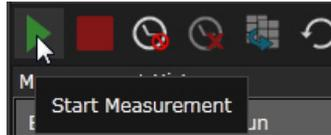

Figure 49 Start measurement
- 18 Click on the **Start Measurement** button to start the measurement as shown in Figure 49 on page -89.